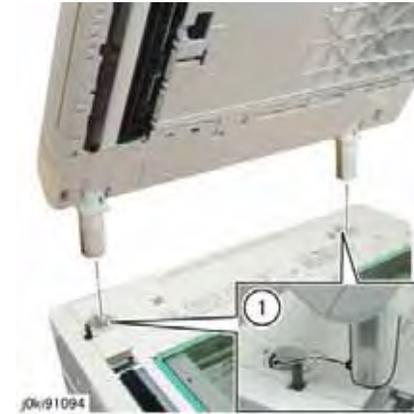

Figure 3 Inserting Tabs
2. Install the DADF. (Figure 3)